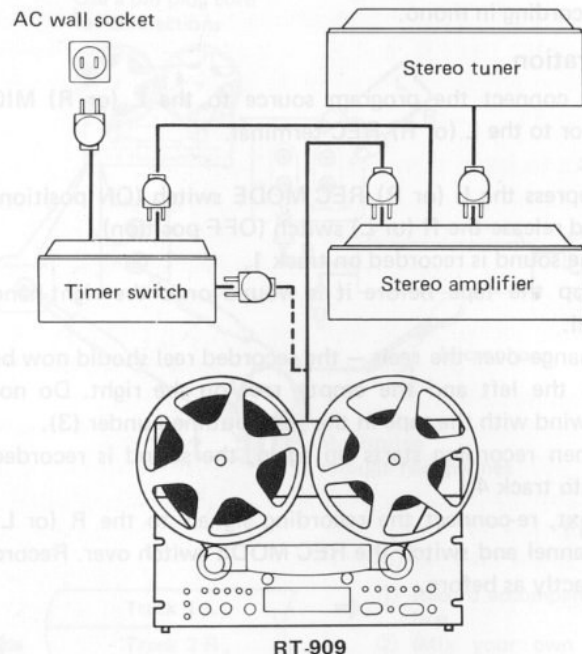

Fig. 28
1. As shown in Fig. 28, connect the RT-909's power cable to the Time switch. Also, plug the power cables of the stereo amplifier and tuner into the timer so that their ON-OFF functions are controlled by the timer.